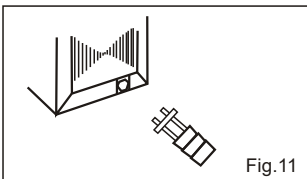

Fig.11
- 4) Install the drain tube adapter into the hole provided at the rear of the air conditioner chassis.(Fig.11)